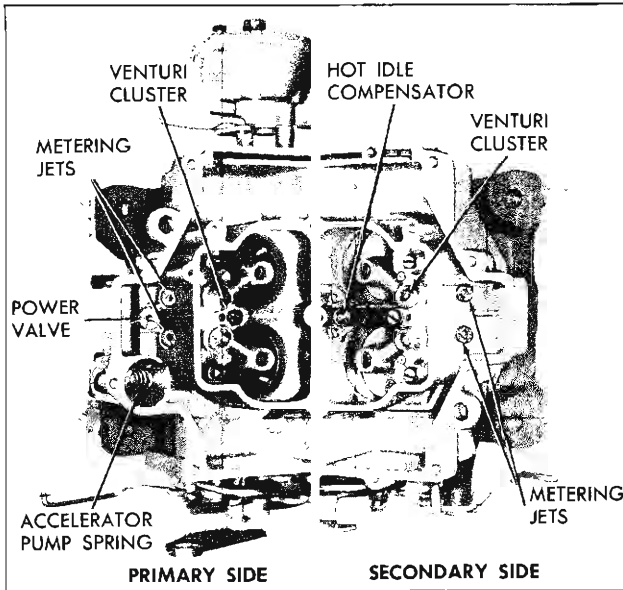

Fig. 58—Bowl Assembly Parts Location
Bowl Disassembly (figs. 58 and 59)
4. Install idle compensator and new gasket, using two small self-tapping screws, Figure 58.